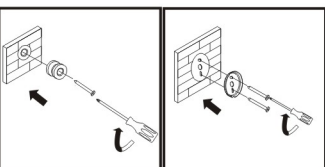

FIGURE 4
- Align brackets with installed plastic screw and secure with screws provided. (FIGURE 4)